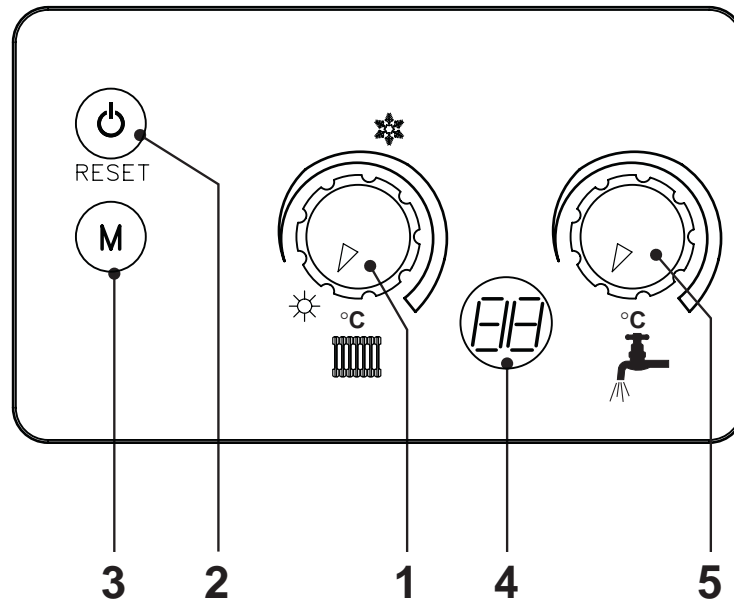

fig. 1
- Press the  key to turn the appliance on (fig 1 item 2)
Press the  key for 5 seconds (see fig. 1).
To set the system flow temperature, use the C.H control knob (ref. 1 - fig. 1). It can be varied from a minimum of 20°C to a maximum of 90°C.
To select Summer/Winter, use knob 1 (fig. 1).
The boiler is equipped with an advanced self-diagnosis system. Should a fault occur with the boiler, the display will show the fault code. There are some faults that in order to restore operation it requires you to press RESET  (2 - fig. 1); if the boiler fails to start, it may be necessary to rectify the fault indicated by the operating LEDs (faults from 1 to 26); other faults cause temporary shutdown that are automatically reset as soon as the value comes back within the boiler's normal working range (faults from 30 to 47).